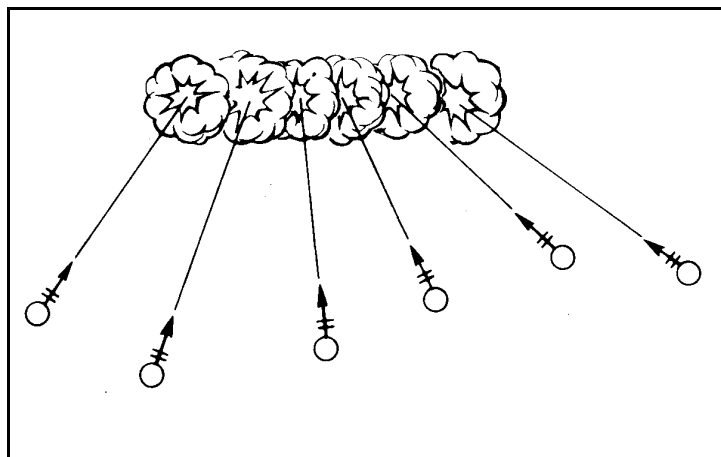

Figure 4-5. Standard sheaf.
e. **Standard Sheaf.** With the standard sheaf (Figure 4-5), rounds impact within the total effective width of the bursts, regardless of the mortar formation.